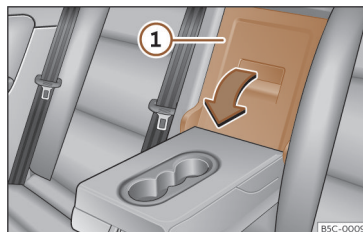

Fig. 198 On the rear seat backrest: opening the tailboard.
- Pull the release lever in the direction of the arrow and push the tailboard cover >>> **Fig. 198** ① down and forwards.